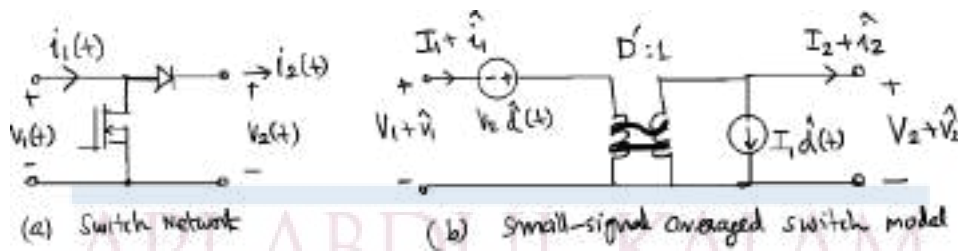

Figure 1.
9. Develop the voltage transformation ratio of a buck converter operating in discontinuous conduction mode. (3)
- 10 Explain why discontinuous conduction mode in dc-dc converters is also called complete energy transfer mode? (3)
- 11 (a) A boost converter is operating with an input dc voltage of 100 V. If the operating duty ratio is 0.4 and the operating efficiency is 90%, evaluate the output voltage. (4)
- (b) Derive the steady-state equivalent circuit model of a buck-boost converter operating in CCM, assuming the switch has an on-state resistance of  $R_{on}$ . Neglect all other losses. (10)
- 12 (a) A 100 W output buck converter is having a total power loss of 15 W. If the input voltage is 18 V, evaluate the operating duty ratio if the output voltage is 10 V. (4)
- (b) Develop the steady-state equivalent circuit model of a buck converter operating in CCM, assuming the switch has an on-state voltage drop of  $V_T$ , and the diode has an on-state drop of  $V_D$ . Neglect all other losses. (10)
- 13 (a) Explain the step-by-step procedure to develop the averaged circuit model of dc-dc converters. (4)
- (b) A switch network and its small-signal averaged model is shown in the figure 1 below: Plug this model into the ideal boost converter circuit in place of the switch network appropriately and transform into the canonical model. (10)